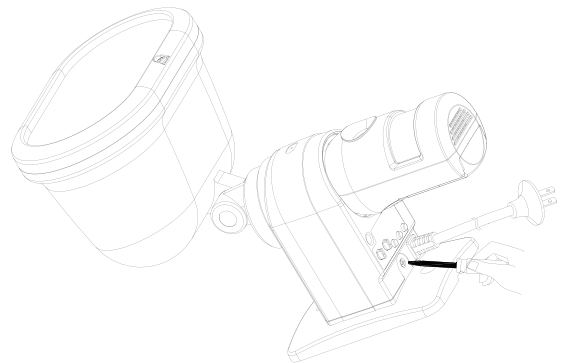

FIGURE 39
- (1) Switch off the power source or wall switch.
- (2) Undo the screw which is situated adjacent to the setting buttons so as to detach the mounting bracket from the unit. (FIGURE 39)